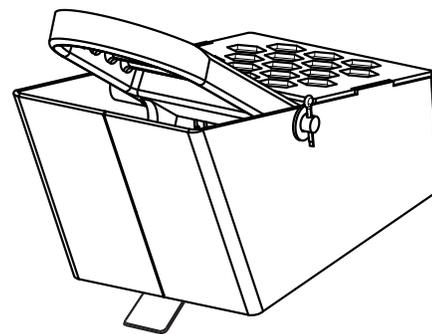

Figure 16. Throttle Pedal
6. The right foot pedal is the *throttle pedal* (Figure 16). The position of the throttle pedal determines blade speed. Slow blade speed is obtained by slightly depressing the pedal. Maximum blade speed is obtained by fully depressing the pedal.